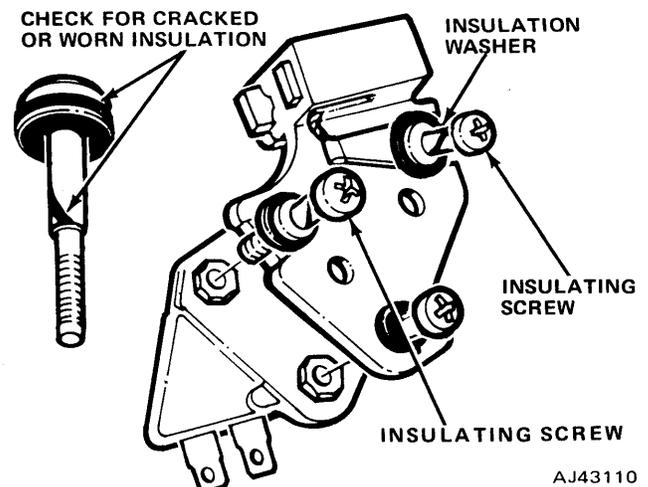

Fig. 3-34 Brush Holders
- (1) Remove two brush holder screws and one diode trio lead strap attaching screw. Note position of all insulator washers for assembly (fig. 3-34).
- (2) Inspect brush holder screws for broken or cracked insulation.
- (3) Remove brush holder and brushes. Carefully note stack-up of parts for assembly.
- (1) Install springs and brushes into brush holder.
(2) Insert a straight wooden or plastic toothpick (to prevent scratching brushes) into hole at bottom of holder to retain brushes.
(3) Install voltage regulator.
(4) Attach brush holder into end frame, noting stack-up of parts (fig. 3-34). Allow wooden or plastic toothpick to protrude through hole in end frame.
(5) Install diode trio lead strap attaching screw and washer.
(6) Securely tighten remaining two brush holder screws.